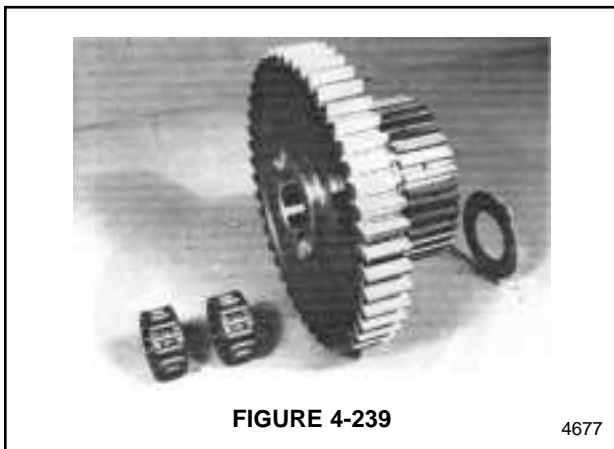

FIGURE 4-239
5. Apply grease to the bearings and the washer. See Figure 4-239. Install these parts into the